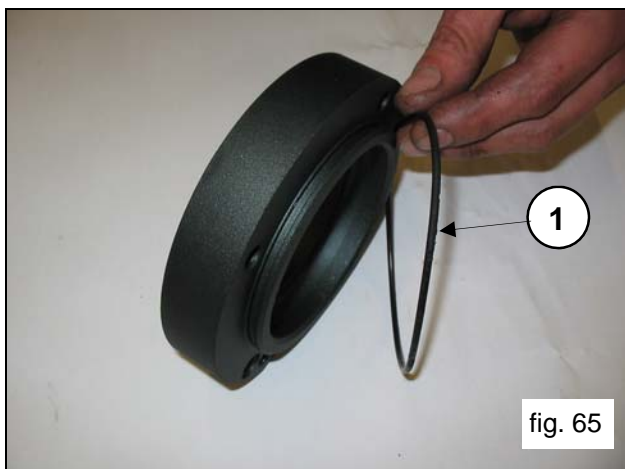

fig. 65
Apply the external O-ring (pos. ①, fig.65) and the lubrication hole O-ring (pos. ①, fig.66) to the PTO bearing covers.